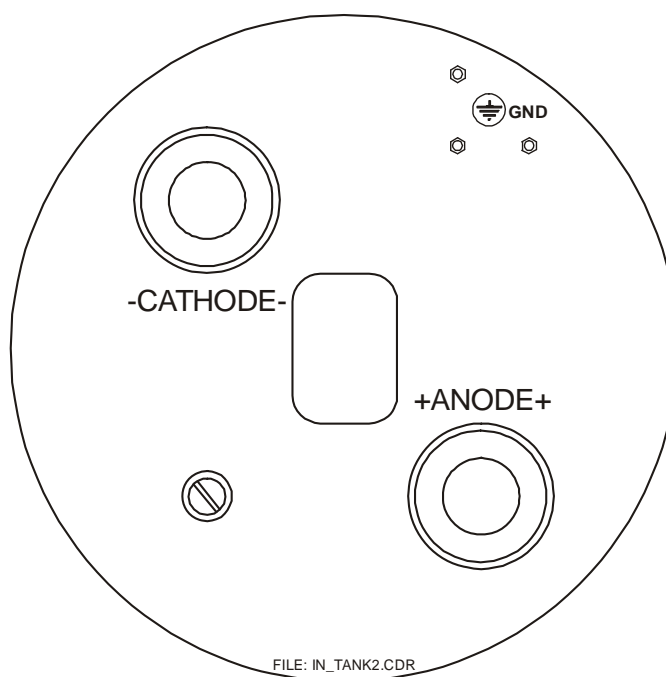

Figure 2-6: HV connector identification
3. Connect the anode and cathode cables to the HT tank. Ensure that the cables are plugged into the proper connectors on the HT tank. Refer to figure 2-6.
In addition to the X-ray tube manufacturers recommended tube grounding procedure, a separate ground wire (10 AWG, 6mm²) must be connected from the X-ray tube housing to one of the ground studs on the HT tank. Refer to figure 2-6 for the location of these ground studs. These ground locations may have other ground wires already connected; ensure that these existing ground wires are not disconnected when making the X-ray tube ground connection.